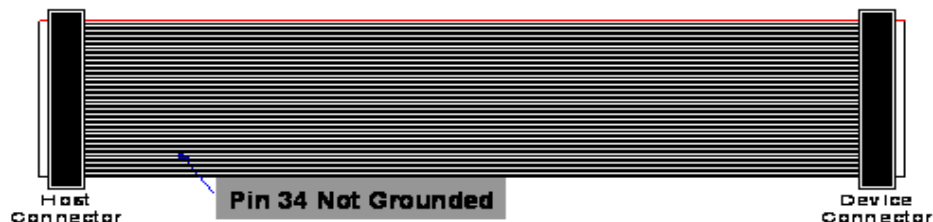

Figure 8. Custom-made 80-conductor two IDE connectors cable (to work with Ultra ATA 66/100. The Pin 34 of the Host connector is NOT grounded)
7. Connect the disk drive to the "To Hard Disk" IDE Connector on the Secure PCI Adapter using the supplied custom-made 80-conductor two IDE connectors cable as shown in Figure 8. Align the red stripe on the cable to pin one on the connector closest to the power. To reduce potential technical difficulties, avoid using regular 3 IDE connectors cable to connect the disk drive to the Secure PCI Adapter.